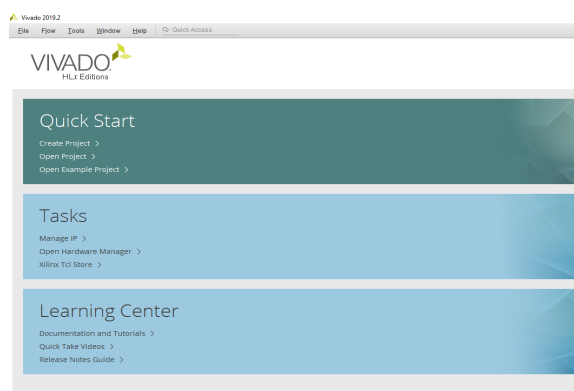

FIGURE 1.3: Welcome Dialog
1. Select the *Create Project* in the welcome dialog. (Figure 1.3) Then click *Next* when the next window pops up.